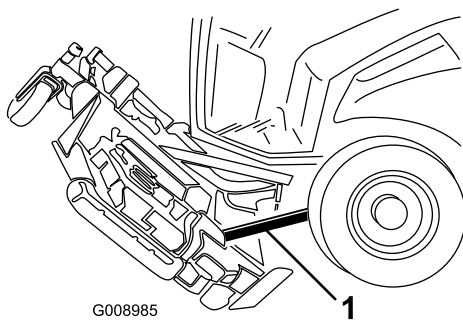

Figure 93
5. Wedge a 2 x 4 between the rear of the deck and the machine (Figure 93).